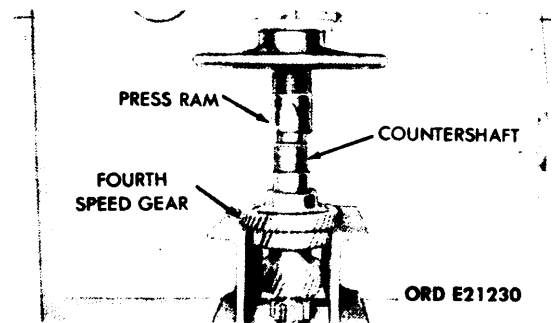

Figure 3-39. Removal of Countershaft Fourth-Speed Gear.
(2) Place into press as shown in figure 3-39. Remove fourth-speed gear snapping and press the shaft. Then remove fourth-speed woodruff key.
(1) Install woodruff key in countershaft at fourth-speed gear position. Coat countershaft at fourth-speed gear bore with a light coating of grease, artillery and automotive (GAA), MIL-G-10924. Place assembly in press, aline fourth-speed gear slot with woodruff key and press the gear onto the countershaft. Secure gear in place with a new snapping. See figure 3-39 for positioning of the fourth-speed gear.